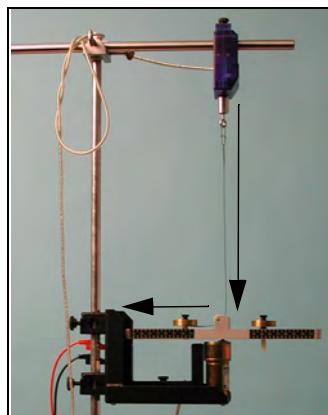

Figure 3a: Changing the radius
- e) To vary the radius, adjust the position of the Force Sensor (See Figure 3a).